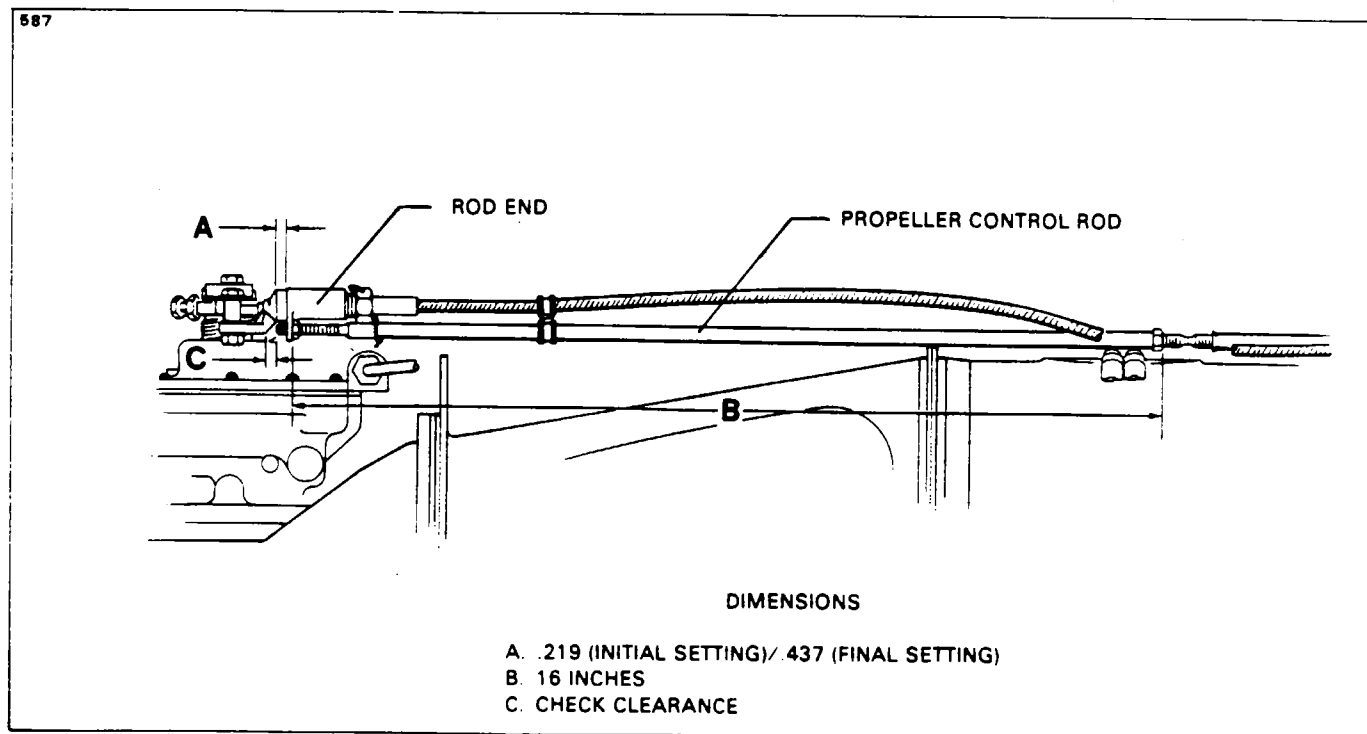

Figure 61-6. Propeller Synchrophaser Rigging (Left Engine Only)
REMOVAL OF TRIMMER ASSEMBLY. (Refer to Figure 61-6.)
8. With the trimmer assembly and actuator motor at these centered positions, connect the flexible shaft to the trimmer and secure with nut and safety wire as shown in Figure 61-6.
SYNCHROPHASER RIGGING. (Refer to Figure 61-6.)
3. Disconnect the synchronizer flex shaft from the motor and drive the shaft to extend the trimmer from the rod end assembly .219 of an inch. (Refer to Figure 61-6, Dimension A.)
4. Adjust the propeller control rod to obtain 16 inches between the stop nuts at each end of the rod. (Refer to Figure 61-6, Dimension B.) This is an initial setting only.
7. Drive the synchronizer flex shaft to extend the trimmer to .437 of an inch. (Refer to Figure 61-6, Dimension A.)
10. Check the clearance between the trimmer and rod end assembly as shown in Figure 61-6, Dimension C.